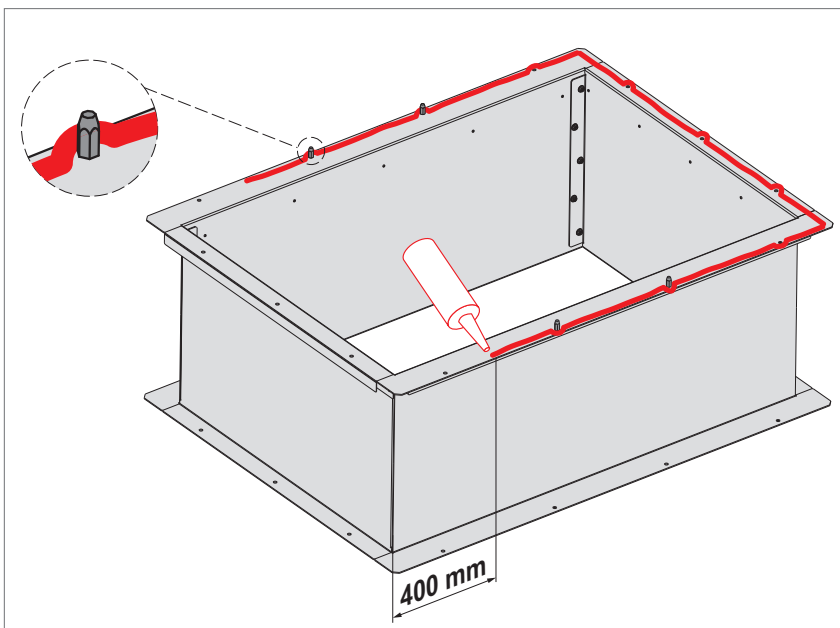

Fig. 28: Applying the sealing compound
- Apply sealing compound to the roof frame (see Fig. 28):